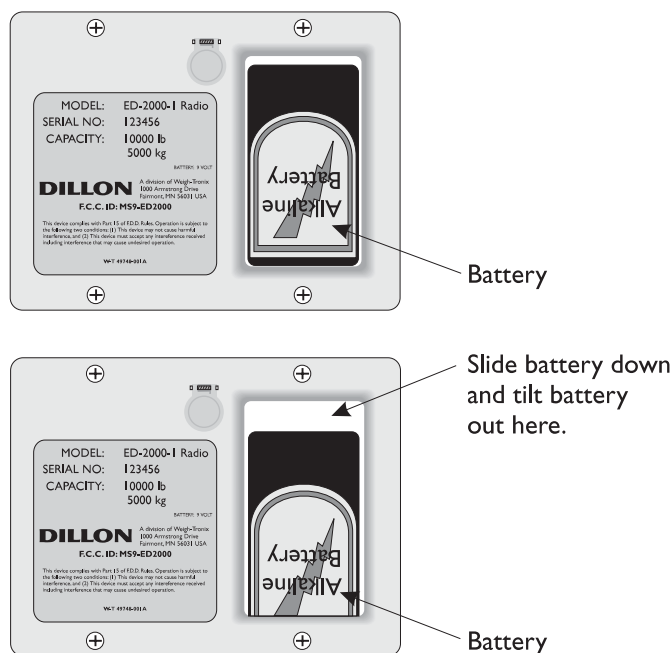

Figure 7
3. Slide the battery down and pry the free end of the battery out of the compartment opening. See Figure 7.